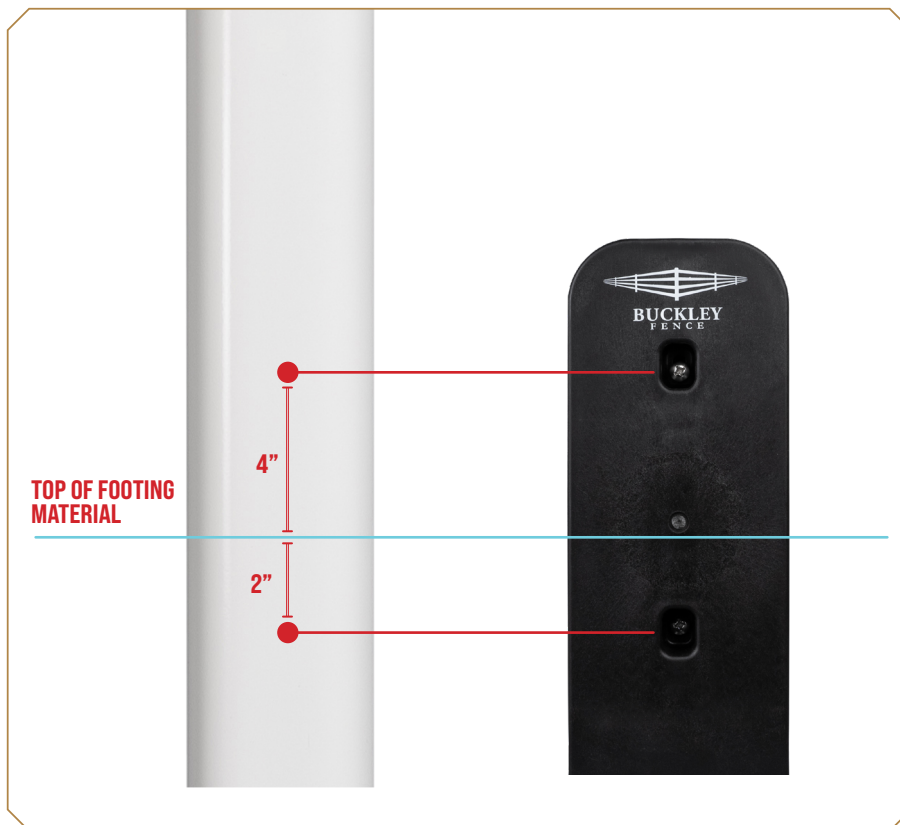

Figure 1
1. Using a step drill, drill one ½” hole on each marked line (4” above top level of footing material and 2” below top level of footing material). Each hole should be drilled approximately on the center of the post face (2 ⅞” from the edge of the post). (Figure 1) It is okay if the drill walks off the line you measured since the mounting holes are slotted to provide minor adjustments.